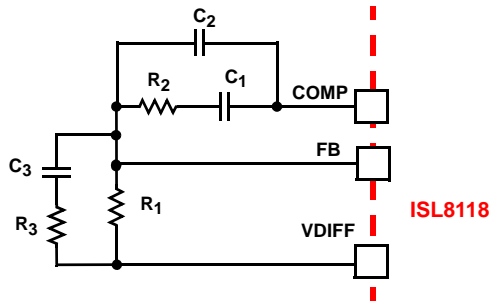
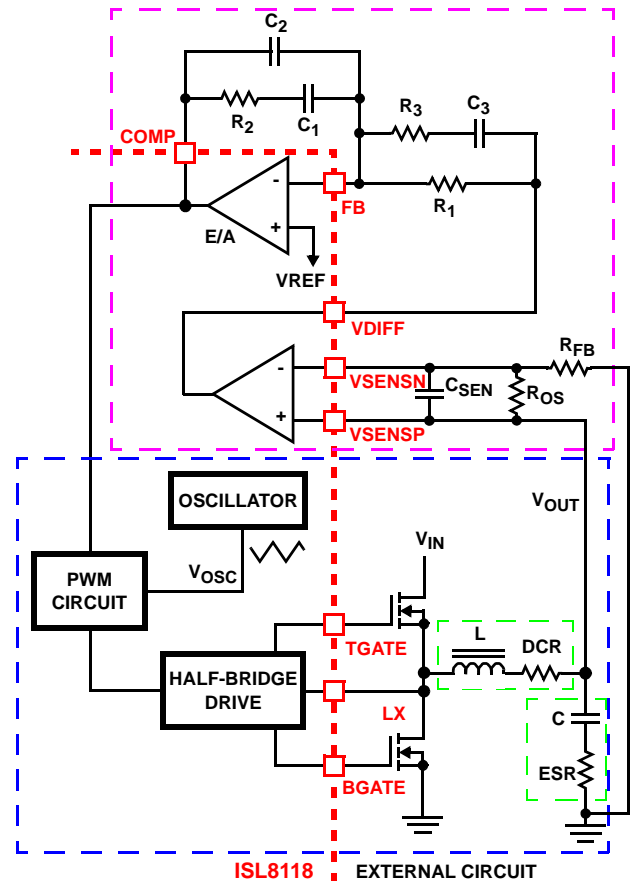

FIGURE 9. COMPENSATION CONFIGURATION FOR ISL8118 WHEN USING DIFFERENTIAL REMOTE SENSE
FIGURE 10. VOLTAGE-MODE BUCK CONVERTER COMPENSATION DESIGN
The ISL8118 single-phase converter is a voltage-mode controller. This section highlights the design considerations for a voltage-mode controller requiring external compensation. To address a broad range of applications, a type-3 feedback network is recommended (see Figure 9).
Figure 10 highlights the voltage-mode control loop for a synchronous-rectified buck converter, when using an internal differential remote sense amplifier. The output voltage (V_{OUT}) is regulated to the reference voltage, V_{REF}, level. The error amplifier output (COMP pin voltage) is compared with the oscillator (OSC) triangle wave to provide a pulse-width modulated wave with an amplitude of V_{IN} at the LX node. The PWM wave is smoothed by the output filter (L and C). The output filter capacitor bank's equivalent series resistance is represented by the series resistor ESR.
The compensation network consists of the error amplifier (internal to the ISL8118) and the external R₁-R₃, C₁-C₃ components. The goal of the compensation network is to provide a closed loop transfer function with high 0dB crossing frequency (F₀; typically 0.1 to 0.3 of F_{SW}) and adequate phase margin (better than 45°). Phase margin is the difference between the closed loop phase at F_{0dB} and 180°. The equations that follow relate the compensation network's poles, zeros and gain to the components (R₁, R₂, R₃, C₁, C₂, and C₃) in Figures 9 and 10. Use the following guidelines for locating the poles and zeros of the compensation network:
1. Select a value for R₁ (1kΩ to 10kΩ, typically). Calculate value for R₂ for desired converter bandwidth (F₀). If setting the output voltage to be equal to the reference set voltage as shown in Figure 9, the design procedure can be followed as presented. However, when setting the output voltage via a resistor divider placed at the input of the differential amplifier (as shown in Figure 10), in order to compensate for the attenuation introduced by the resistor divider, the below obtained R₂ value needs be multiplied by a factor of (R_{OS} + R_{FB})/R_{OS}. The remainder of the calculations remain unchanged, as long as the compensated R₂ value is used.
A small capacitor, C_{SEN} in Figure 10, can be added to filter out noise, typically C_{SEN} is chosen so the corresponding time constant does not reduce the overall phase margin of the design, typically this is 2x to 10x switching frequency of the regulator. As the ISL8118 supports 100% duty cycle, d_{MAX} equals 1. The ISL8118 also uses feed-forward compensation, as such V_{OSC} is equal to 0.16 multiplied by the voltage at the VFF pin.